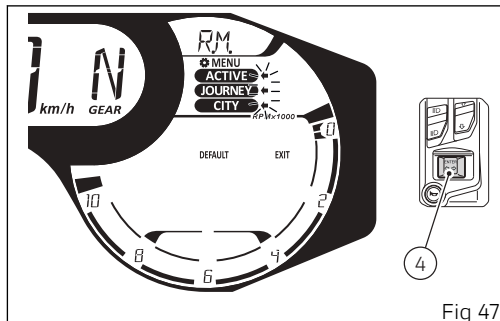

Fig 47
Press button (4): the instrument panel will restore default values for all Riding Modes. The instrument panel displays all three Riding Modes for 2 seconds "ACTIVE", "JOURNEY" and "CITY" as steady indications, together with three flashing arrows on the right of the Riding Modes (Fig 47).